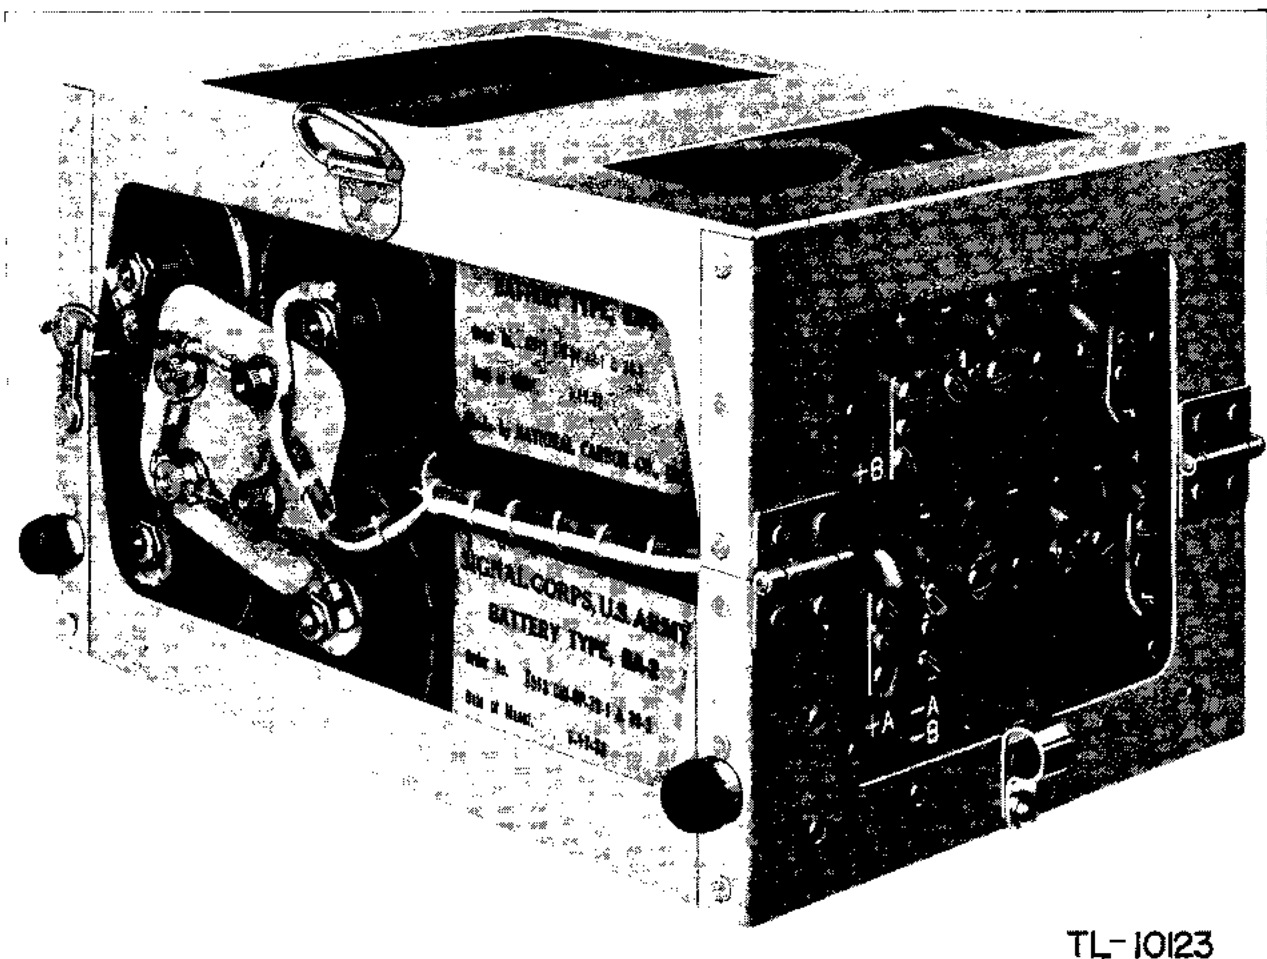

Figure 9. Frequency Meters BC-221-B, BC-221-Q, battery tray.
(1) The use of a battery tray or chassis as supplied with Frequency Meters BC-221-B and BC-221-Q. (See fig. 9.)
(2) The use of a battery clamp and wiring harness as supplied with all metal cabinet models with the exception of those listed in (1) above. Supplied with Frequency Meters BC-221-A, BC-221-C, BC-221-D, BC-221-E, BC-
(1) When the battery tray or chassis is used (fig. 9), connect the six Batteries BA-2 individually to the proper screws on the terminal board at the end of the tray, which is so arranged as to connect the individual batteries in series. This method applies to the BC-221-B and BC-221-Q, only.